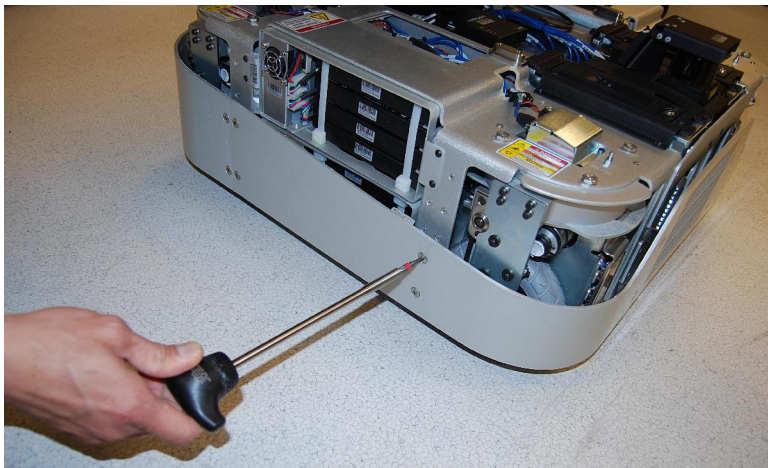

Fig. 3
2. Remove the **front** skirt of the robot using the 4mm hex bit with the T-handle driver. There are 12 countersunk screws (68-03063-08) to remove (Fig. 3,4)